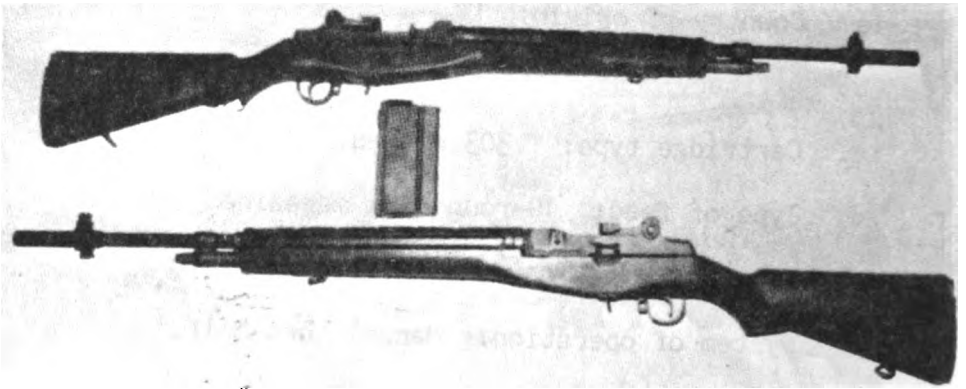

Figure 11
11. Identify the M14 (fig. 11).